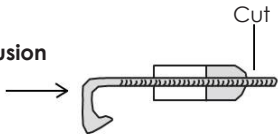

Fig 24.2
6. Dial the Hook counter clockwise until the patient's teeth are end to end. This is the patient's **starting position** (see figure 24.2)